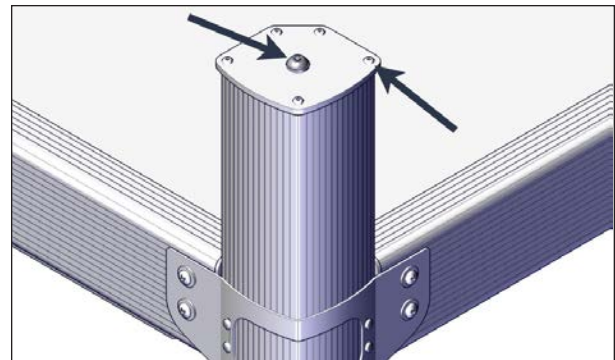

FIGURE 88: SCREW REMOVAL
3. Dismount the screws (5) on the top plate of the posts, see Figure 88.
4. Remove the center screw. Keep the top plates and the screws in a safe location see Figure 88.